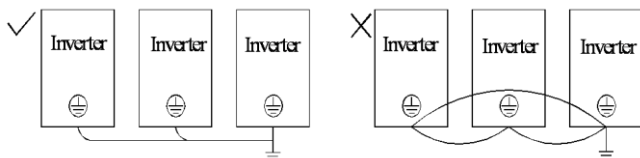

Figure 3-12 Grounding Wiring
- Do not form the grounding cable as a circuit whenever two or more inverters are used synchronously. See Figure 3-12 for the correct and incorrect grounding wirings.